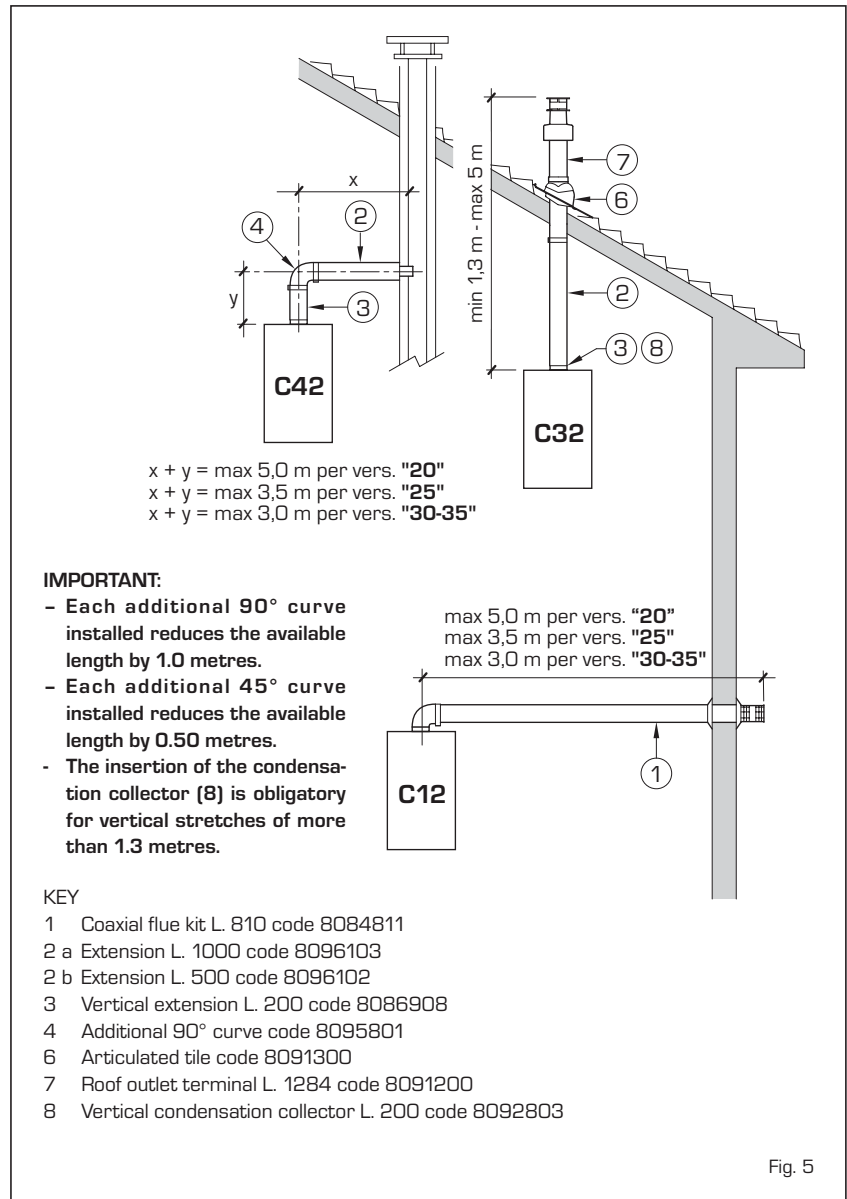

Fig. 5
The diagrams of fig. 5 illustrate some examples of different types of discharge modalities allowed and the maximum lengths that can be reached.
2.7.2 Diaphragm for 60/100 coaxial duct (fig. 5/a)